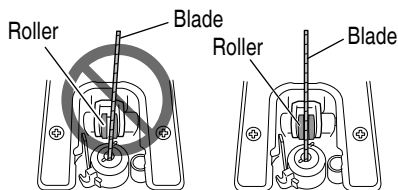

Fig. 11
- Confirm the blade located between the groove of roller. (Fig. 11)